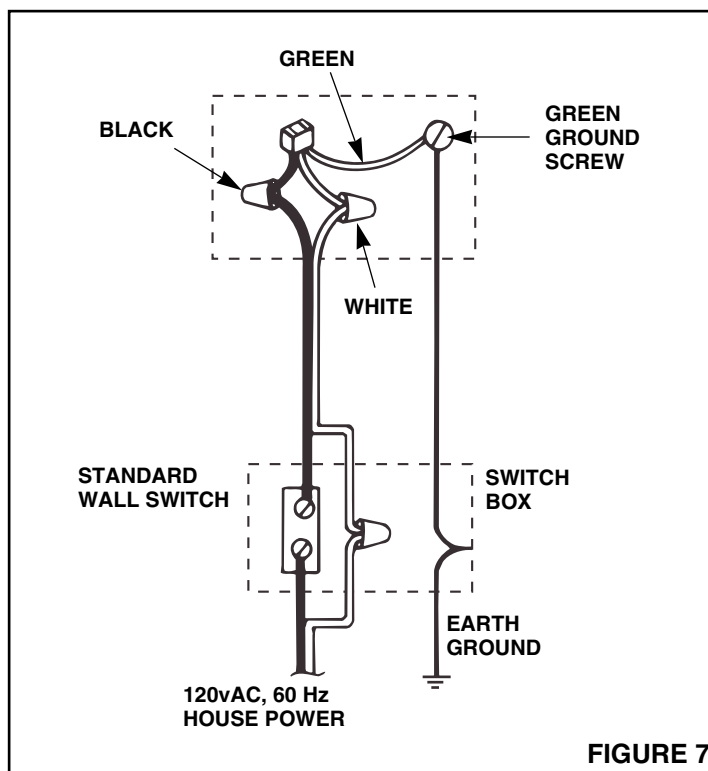

FIGURE 7
3. Refer to **Figure 7**. Connect supply wires to ventilator wires: black to black, white to white. Connect ground wire to green ground screw.